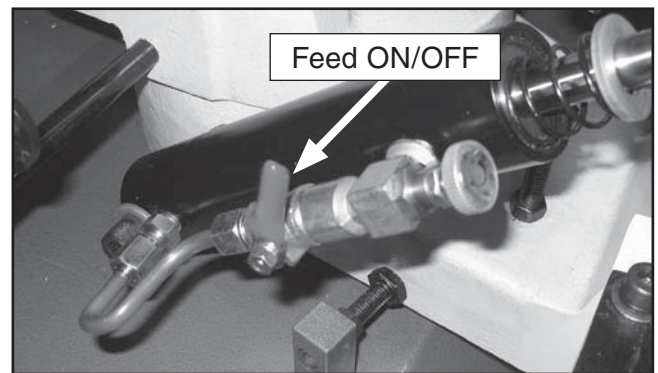

Figure 12. Feed ON/OFF Valve.
1. Raise the bow to the highest position and lock in place (**Figure 12**).